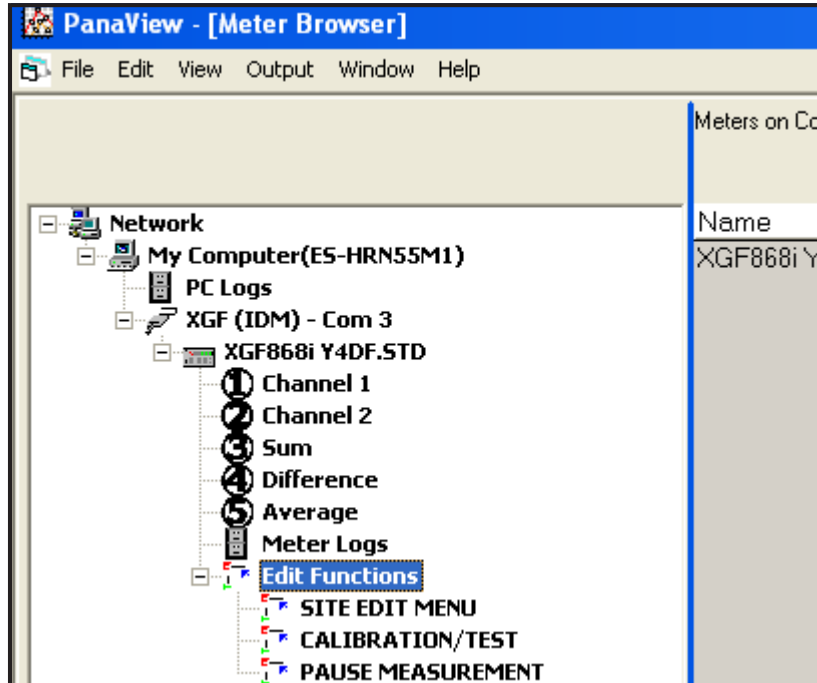

Figure 40: Menus in the *Edit Functions* Option
2. Expand the *Edit Functions* option. The window now appears similar to that shown in Figure 40 on page 91.